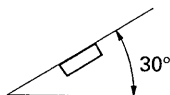

Fig. 8
- If installation angle exceeds 30° from horizontal, cassette player might not give its optimum performance. (Fig. 8)